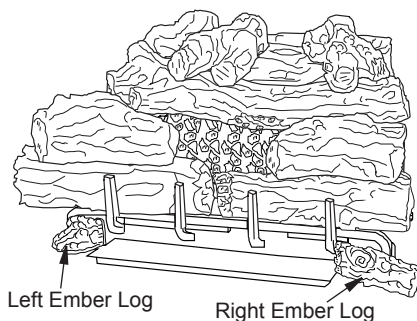

Figure 36 - Installing Ember Logs
10. Place the left and right ember logs as shown in Figure 36. Do not place the logs where they will be touched by flame. They are intended to cover the sheet metal on the front left and right sides of the base assembly.